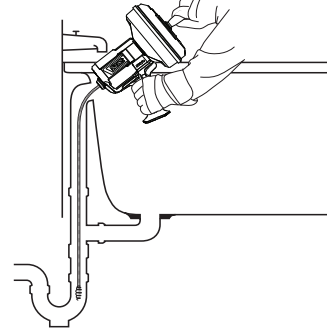

Figure 5
- Bathtub overflow: Remove overflow plate and internal mechanism (*Figure 5*).